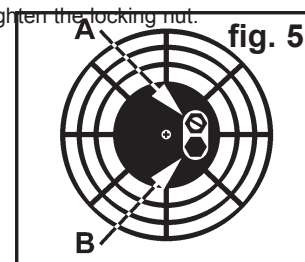

fig. 5
5.1. **Running the heater on paraffin.** The heater has been factory pre-set for paraffin and will produce the correct heat output when first used from new. You should run the heater at the pre-set output in order to ensure the long life, safety and reliability of the unit. Minor adjustments to heat output may be required during the first 60 hours of use. These adjustments are made to the air pressure valve (see fig.5.A). Once the unit has completed the running-in period it should not be necessary to alter the air pressure again until a new air filter is fitted or a change of fuel takes place.
- 5.1.4. To adjust the heat output, locate the air pressure valve (fig.5.A), which is in the centre portion of the air inlet grille at the back of the unit. Hold the adjusting screw steady with a screwdriver and loosen the locking nut. Turn the screw clockwise to increase the air pressure and thus increase the heat output. Turn the screw anticlockwise to decrease the air pressure and thus decrease the heat output. Make small adjustments only and give the heater time to stabilise before observing the effect on the colour of the dome. When the colour is normal as described above in section 5.1.3.(a) tighten the locking nut.
- 5.2.3. Plug back into the mains supply and start the heater, run for two minutes before making any adjustment to the air pressure valve. Locate the valve (fig.5.A) which is in the centre portion of the air inlet grille at the back of the unit. Hold the adjusting screw steady with a screwdriver and loosen the locking nut. Turn screw half a turn anticlockwise to decrease the air pressure, and thus decrease the heat output, to compensate for the hotter burning diesel fuel. Retighten the locking nut.
- 5.3.1. If there is any doubt about the efficient operation of the heater, the air pressure should be checked more exactly using a pressure gauge which will measure up to 30 p.s.i. and has a 1/8" BSP thread. With the heater turned off and unplugged from the mains, remove the threaded plug from below the air pressure valve and attach the gauge, see fig.5.B. Start the heater and compare the pressure reading with the chart shown on the right. If the reading differs from the chart this indicates that maintenance is required as laid out in Section 6. You should also investigate whether the environmental conditions at the location of the heater are suitable, with particular reference to the amount and quality of the air supply.